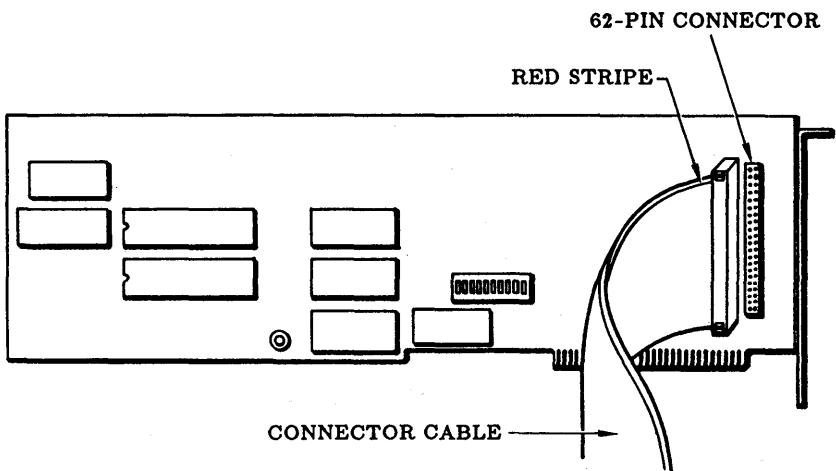

Figure 5: Connecting the Ribbon Cable
5. If the ribbon cable is not already connected to the tape controller card, connect the cable as shown in Figure 5: